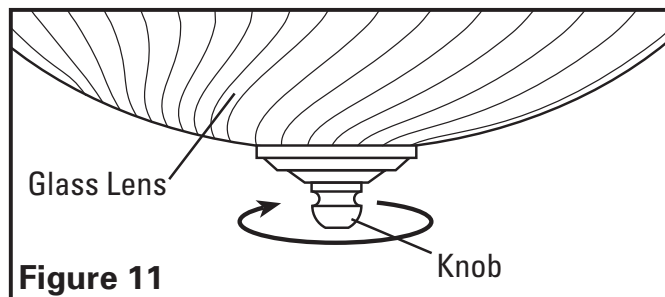
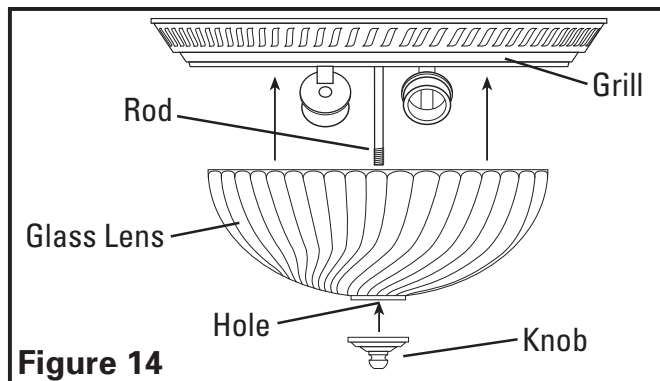

Figure 11
Figure 14
- Remove glass light lens from grill by unscrewing knob at the top of lens (**Figure 11**).
- Reinstall the glass lens in place by sliding the hole in the lens onto the rod from the grill and securing in place with the lens knob removed in *step 3* (**Figure 14**).
3. **Changing the Light Bulb:** Disconnect power to the unit. Remove glass light lens from grill by unscrewing knob at the top of lens (**Figure 11**). Replace light bulb(s) with 60 watt maximum, type A19 medium base incandescent bulb(s). Reinstall the glass lens in place by sliding the hole in the lens onto the rod from the grill and securing in place with the lens knob (**Figure 14**).